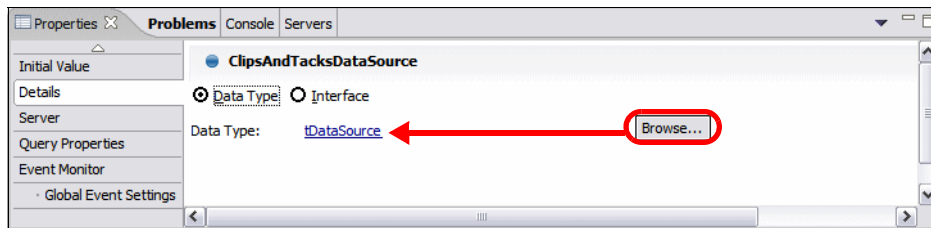

Figure 10-79 Define a *tDataSource* variable
- ▶ Click *Browse* to set the Data Type. Select *tDataSource* (Figure 10-79).